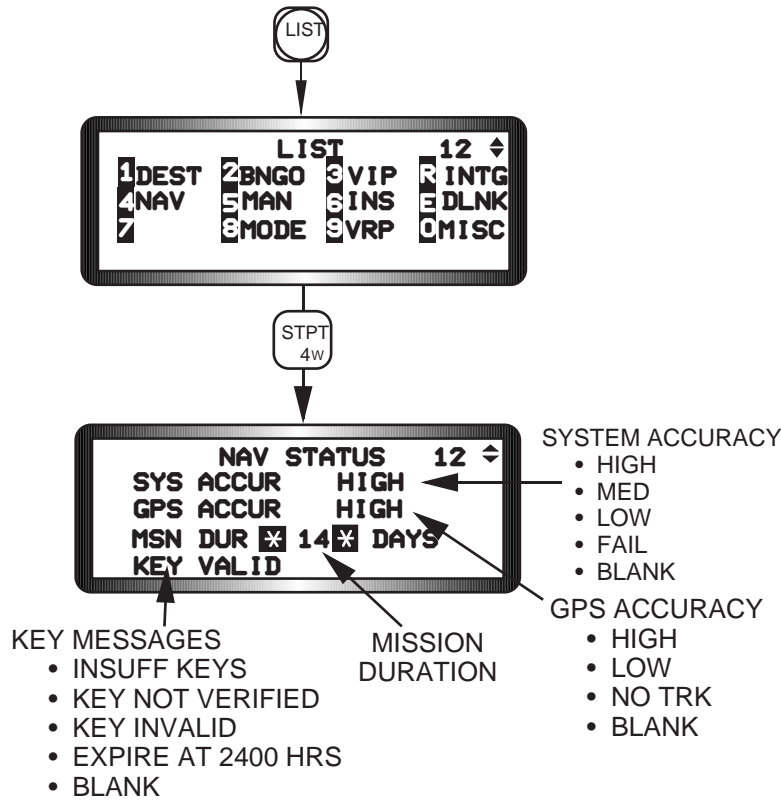

Figure 2-29 GPS NAV Status Page
**Navigation Status.** The avionics system utilizes GPS and Inertial Navigation System (INS) information to keep an estimate of aircraft position. This estimate is referred to as the navigation solution. To integrate the information from these two sources and to determine the navigation solution, the system uses a Kalman filter. Also, to ensure accuracy of the navigation solution, the system utilizes INS performance model information along with GPS data (if GPS accuracy is HIGH) to determine the drifting behavior of the INS. In this manner, the system can continue to be accurate even with the loss of GPS information. The GPS is easy to use, but must be verified each flight. After a valid INS alignment, turn the GPS power on and select the NAV STATUS page on the DED (Figure 2-29). This page displays the system navigation and GPS solution accuracies estimated by the Kalman filter. This page is also used to control and display GPS mission duration days and status reports on cryptovariable keys.